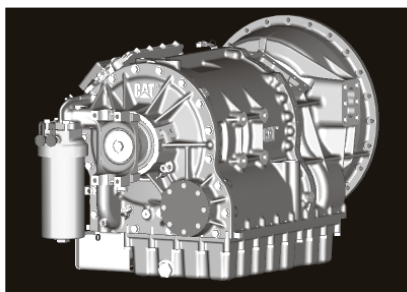

Fig. 1
1. Drain transmission oil before removing the rear aperture plate. After draining transmission fluid reinstall plug. (**Fig. 1**)
2. Remove the P.T.O. rear aperture plate with an 18 mm socket. (**Fig. 1**)